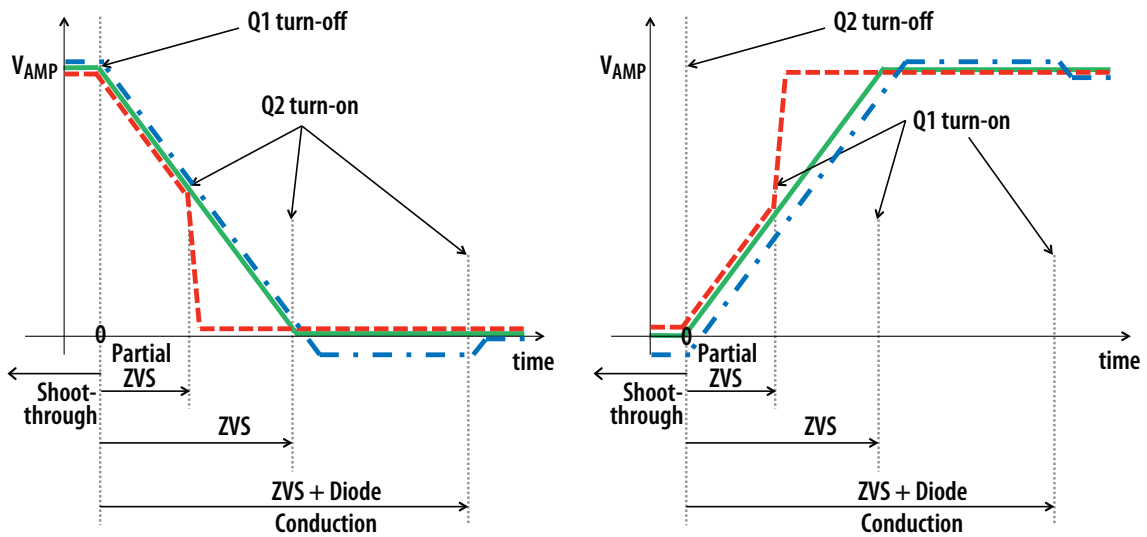

Figure 10: ZVS timing diagrams
Setting the correct time to establish ZVS transitions is critical to achieving high efficiency with the EPC9509 amplifier. This can be done by selecting the values for R71, R72, R77, and R78 or P71, P72, P77, and P78 respectively. This procedure is best performed using a potentiometer installed at the appropriate locations that is used to determine the fixed resistor values. The procedure is the same for both single-ended and differential mode of operation. The timing MUST initially be set WITHOUT the source coil connected to the amplifier. The timing diagrams are given in Figure 10 and should be referenced when following this procedure. Only perform these steps if changes have been made to the board as it is shipped preset. The steps are:
6. While observing the oscilloscope adjust the applicable potentiometers so to achieve the green waveform of Figure 10.